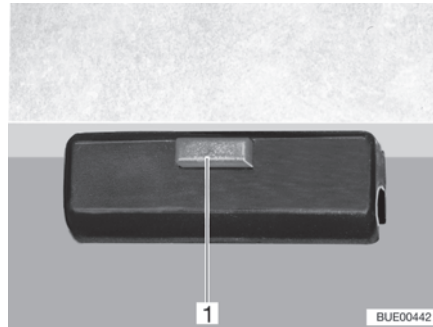

Fig. 96 Lock
- Release the lock (Fig. 96,1) on the table top.